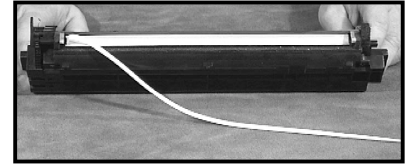

Figure 13
7. To install the seal start by removing the old seal material, clean surface with alcohol and apply new seal (**P/N PBSL40** fig. 13)). Slide the pull tab end of the seal under the felt covered wedge and replace the wedge.